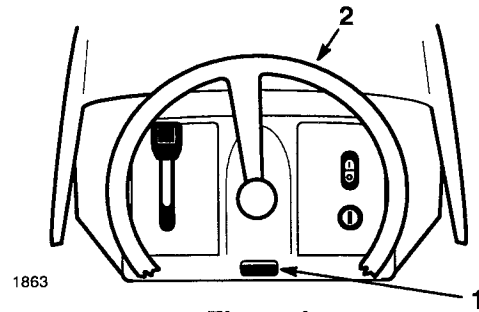

Figure 4
1. Push in on the tilt button (Fig. 4).